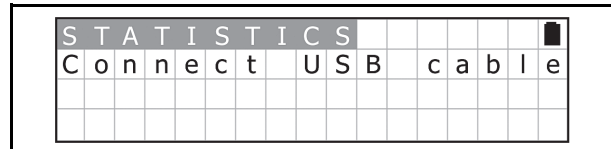

Figure 20 Acceptance Log Standby Screen 1
- Connect the USB Port of the Validator to the DT-300™ Device using a proper USB Cable (See Figure 20). Once detected, the connection between the Validator and the DT-300™ will automatically begin to receive the Validator's Acceptance Log.